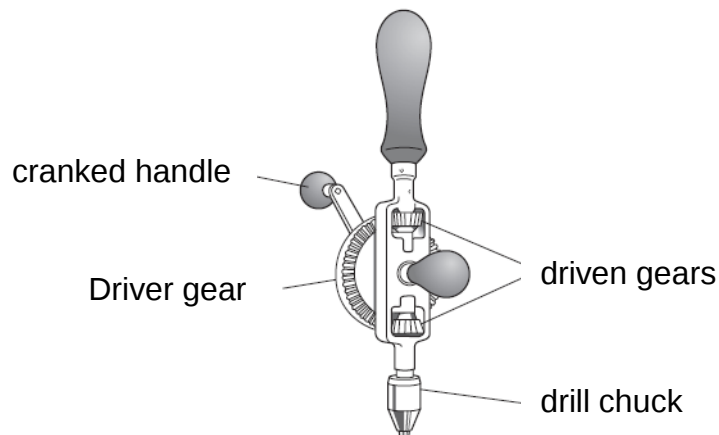

Fig. 10
- 13 Figure 10 below shows a drawing of a hand drill.